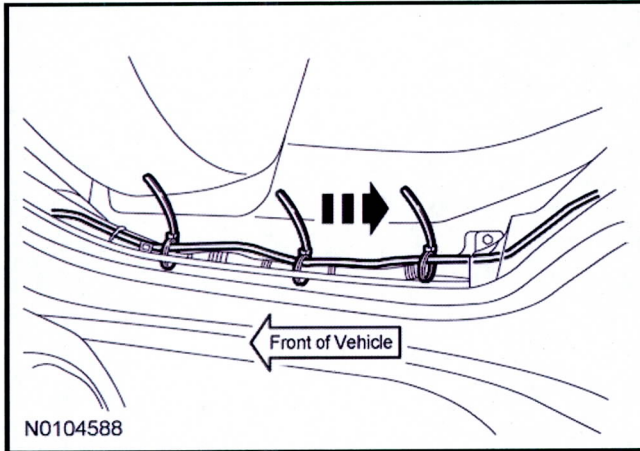

Figure 10 - Article 13-1-5
35. Use supplied tie straps to secure power cable and converter module wires to the interior vehicle harness. (Figure 10)